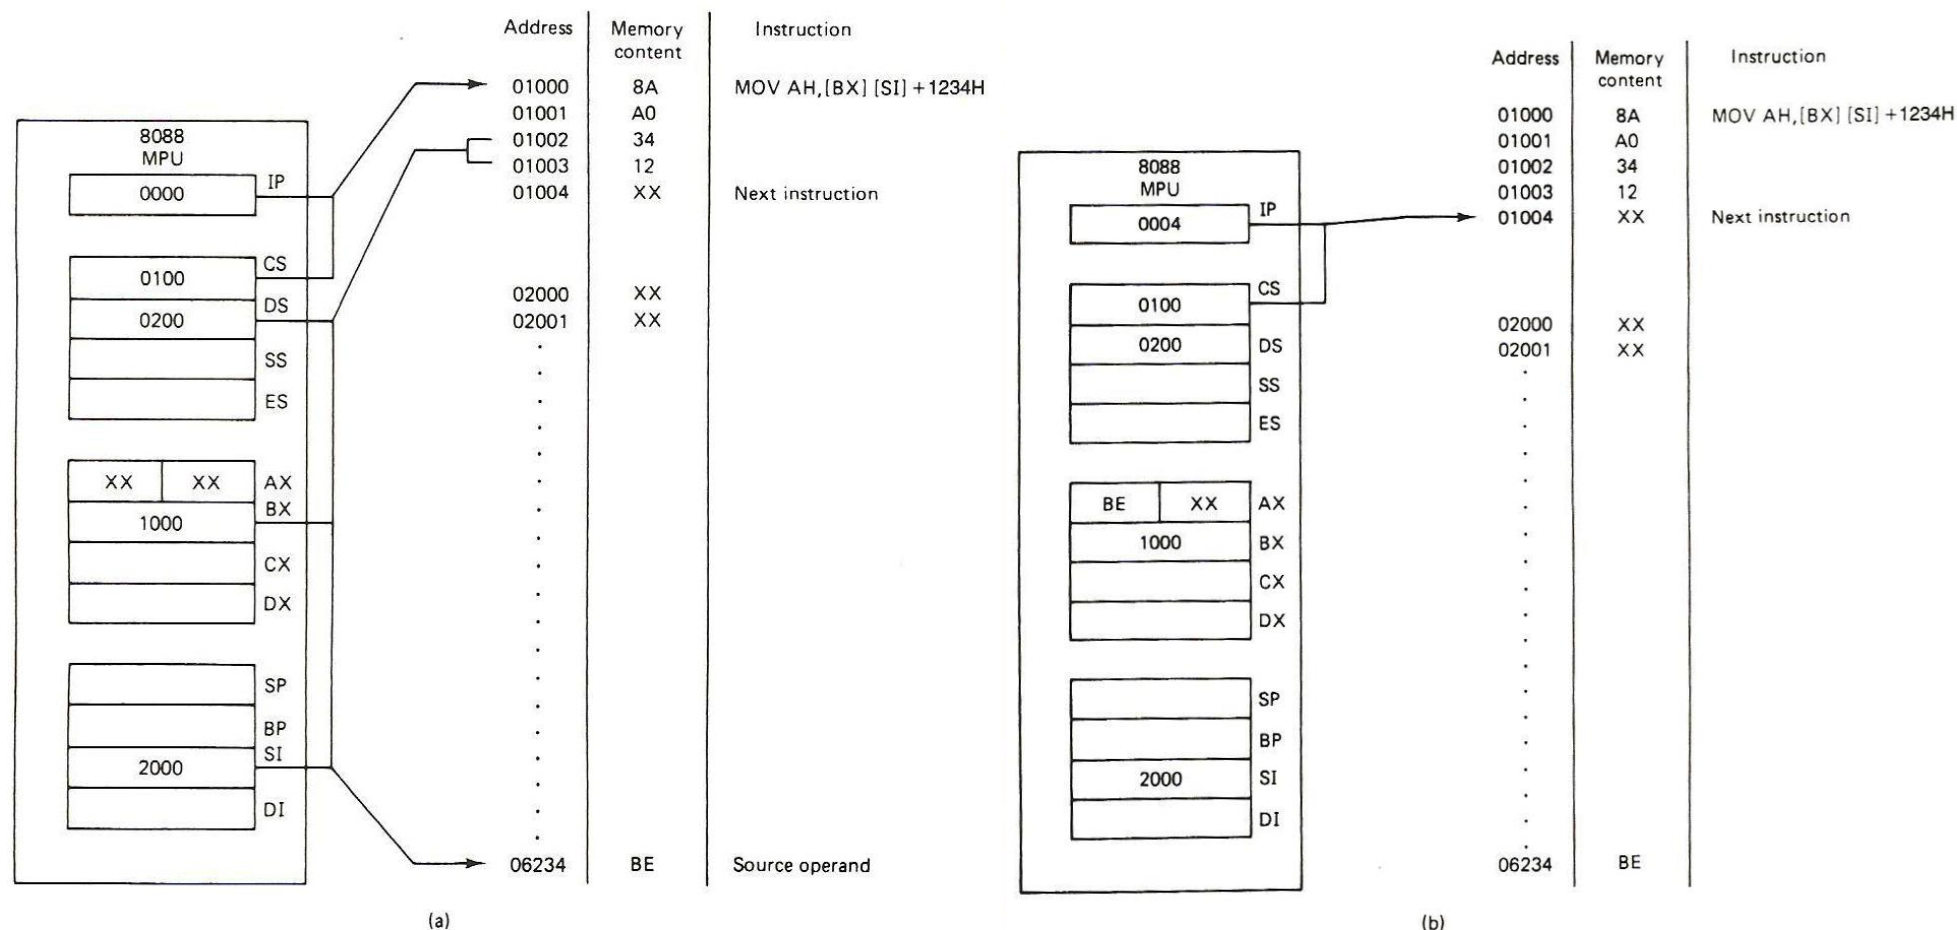

Fig 8 (a) before fetching and execution (b) after execution
3.3.5 Based-Indexed addressing: this mode combines the based addressing mode and indexed addressing mode. Fig 8 below shows the memory and registers before and after the execution of instruction: